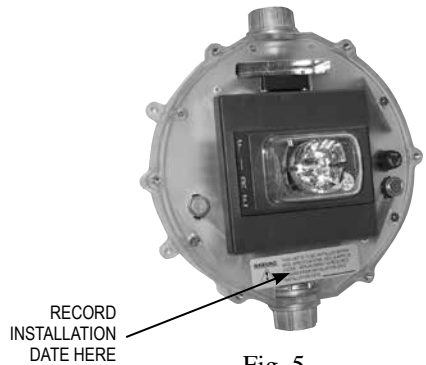

Fig. 5
10. Wire and install strobe (Fig. 5) using Teflon coated wire provided. (Red Jacket containing Red-Positive/Black-Negative).